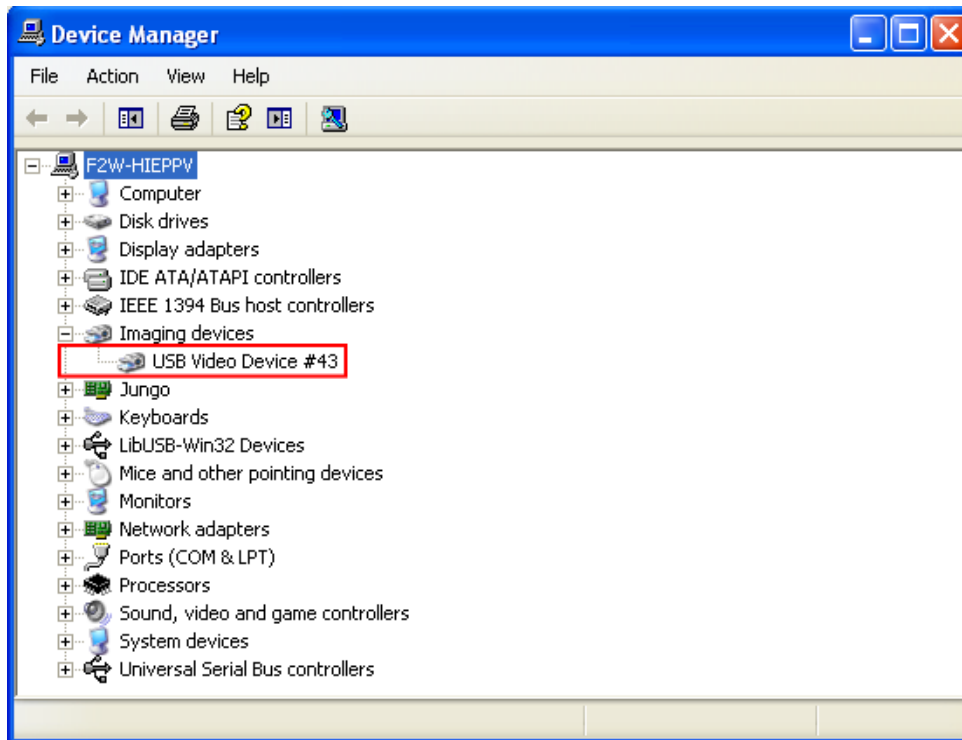

Figure J-4. Device manager dialog
4. To verify whether the USB Video Device has been installed properly or not, you must see the device entry in the device manager as shown in Figure J-4.